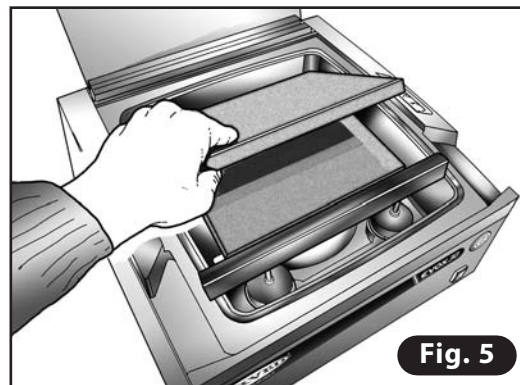

Fig. 5
- 4) Remove the PE fillers from the vacuum chamber (**Fig. 5**).